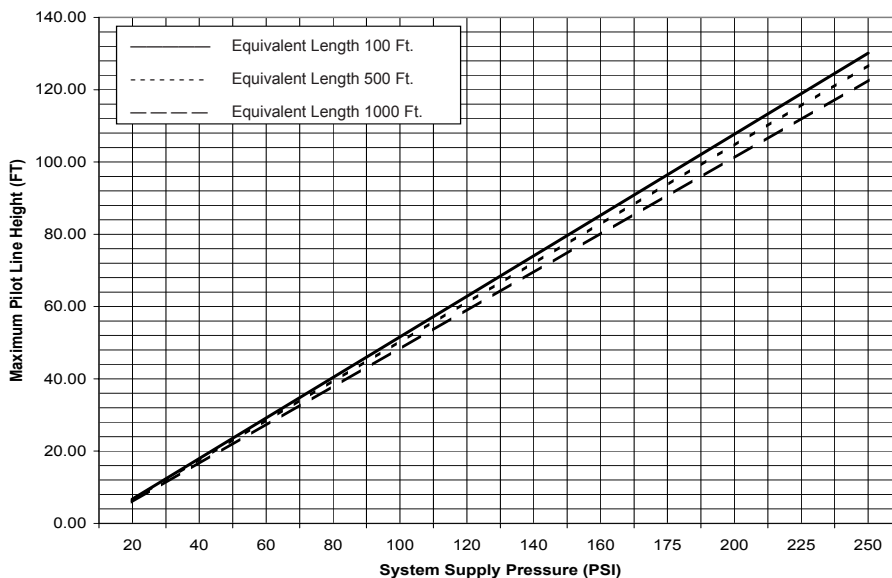

Figure 3 - 2-1/2" (DN65) & 3" (DN80) Model F-1 Deluge Valves
B. Wet Foam Systems (See Figure 3)